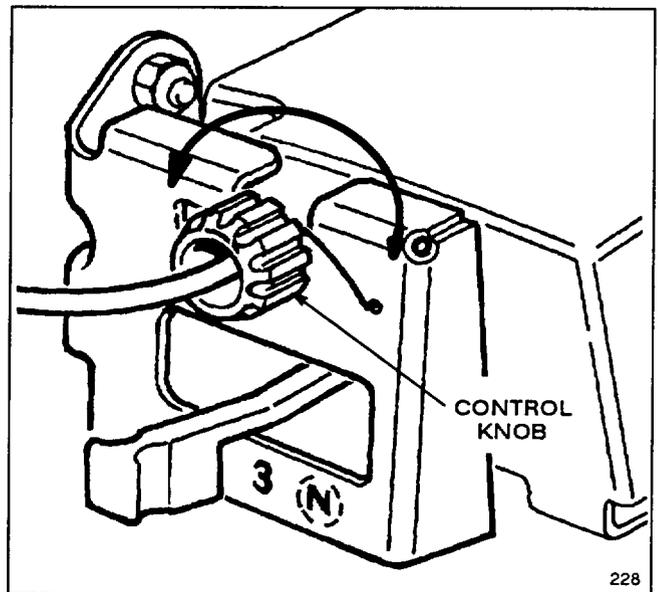

Figure 23
2. ADJUSTMENT (Fig. 23)—Rotate control knob clockwise 1/2 turn if mower does not self-propel.